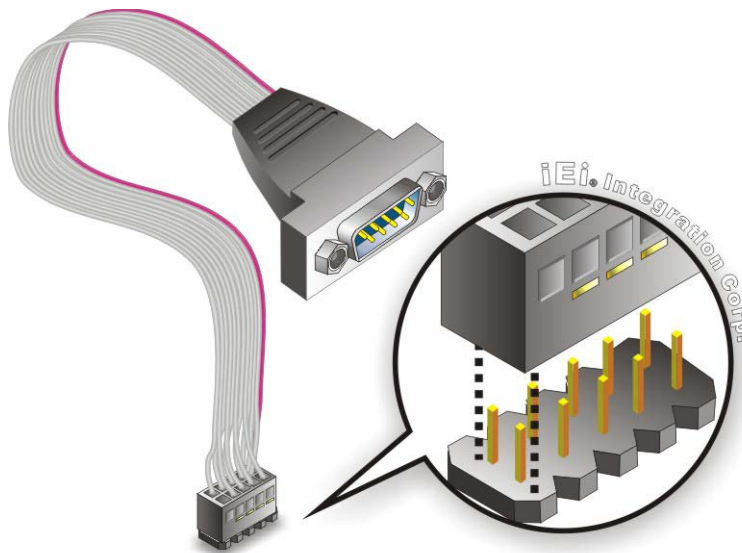

Figure 4-3: Single RS-232 Cable Installation
Step 2: Insert the cable connector. Insert the connector into the serial port box header. See Figure 4-3. A key on the front of the cable connectors ensures the connector can only be installed in one direction.